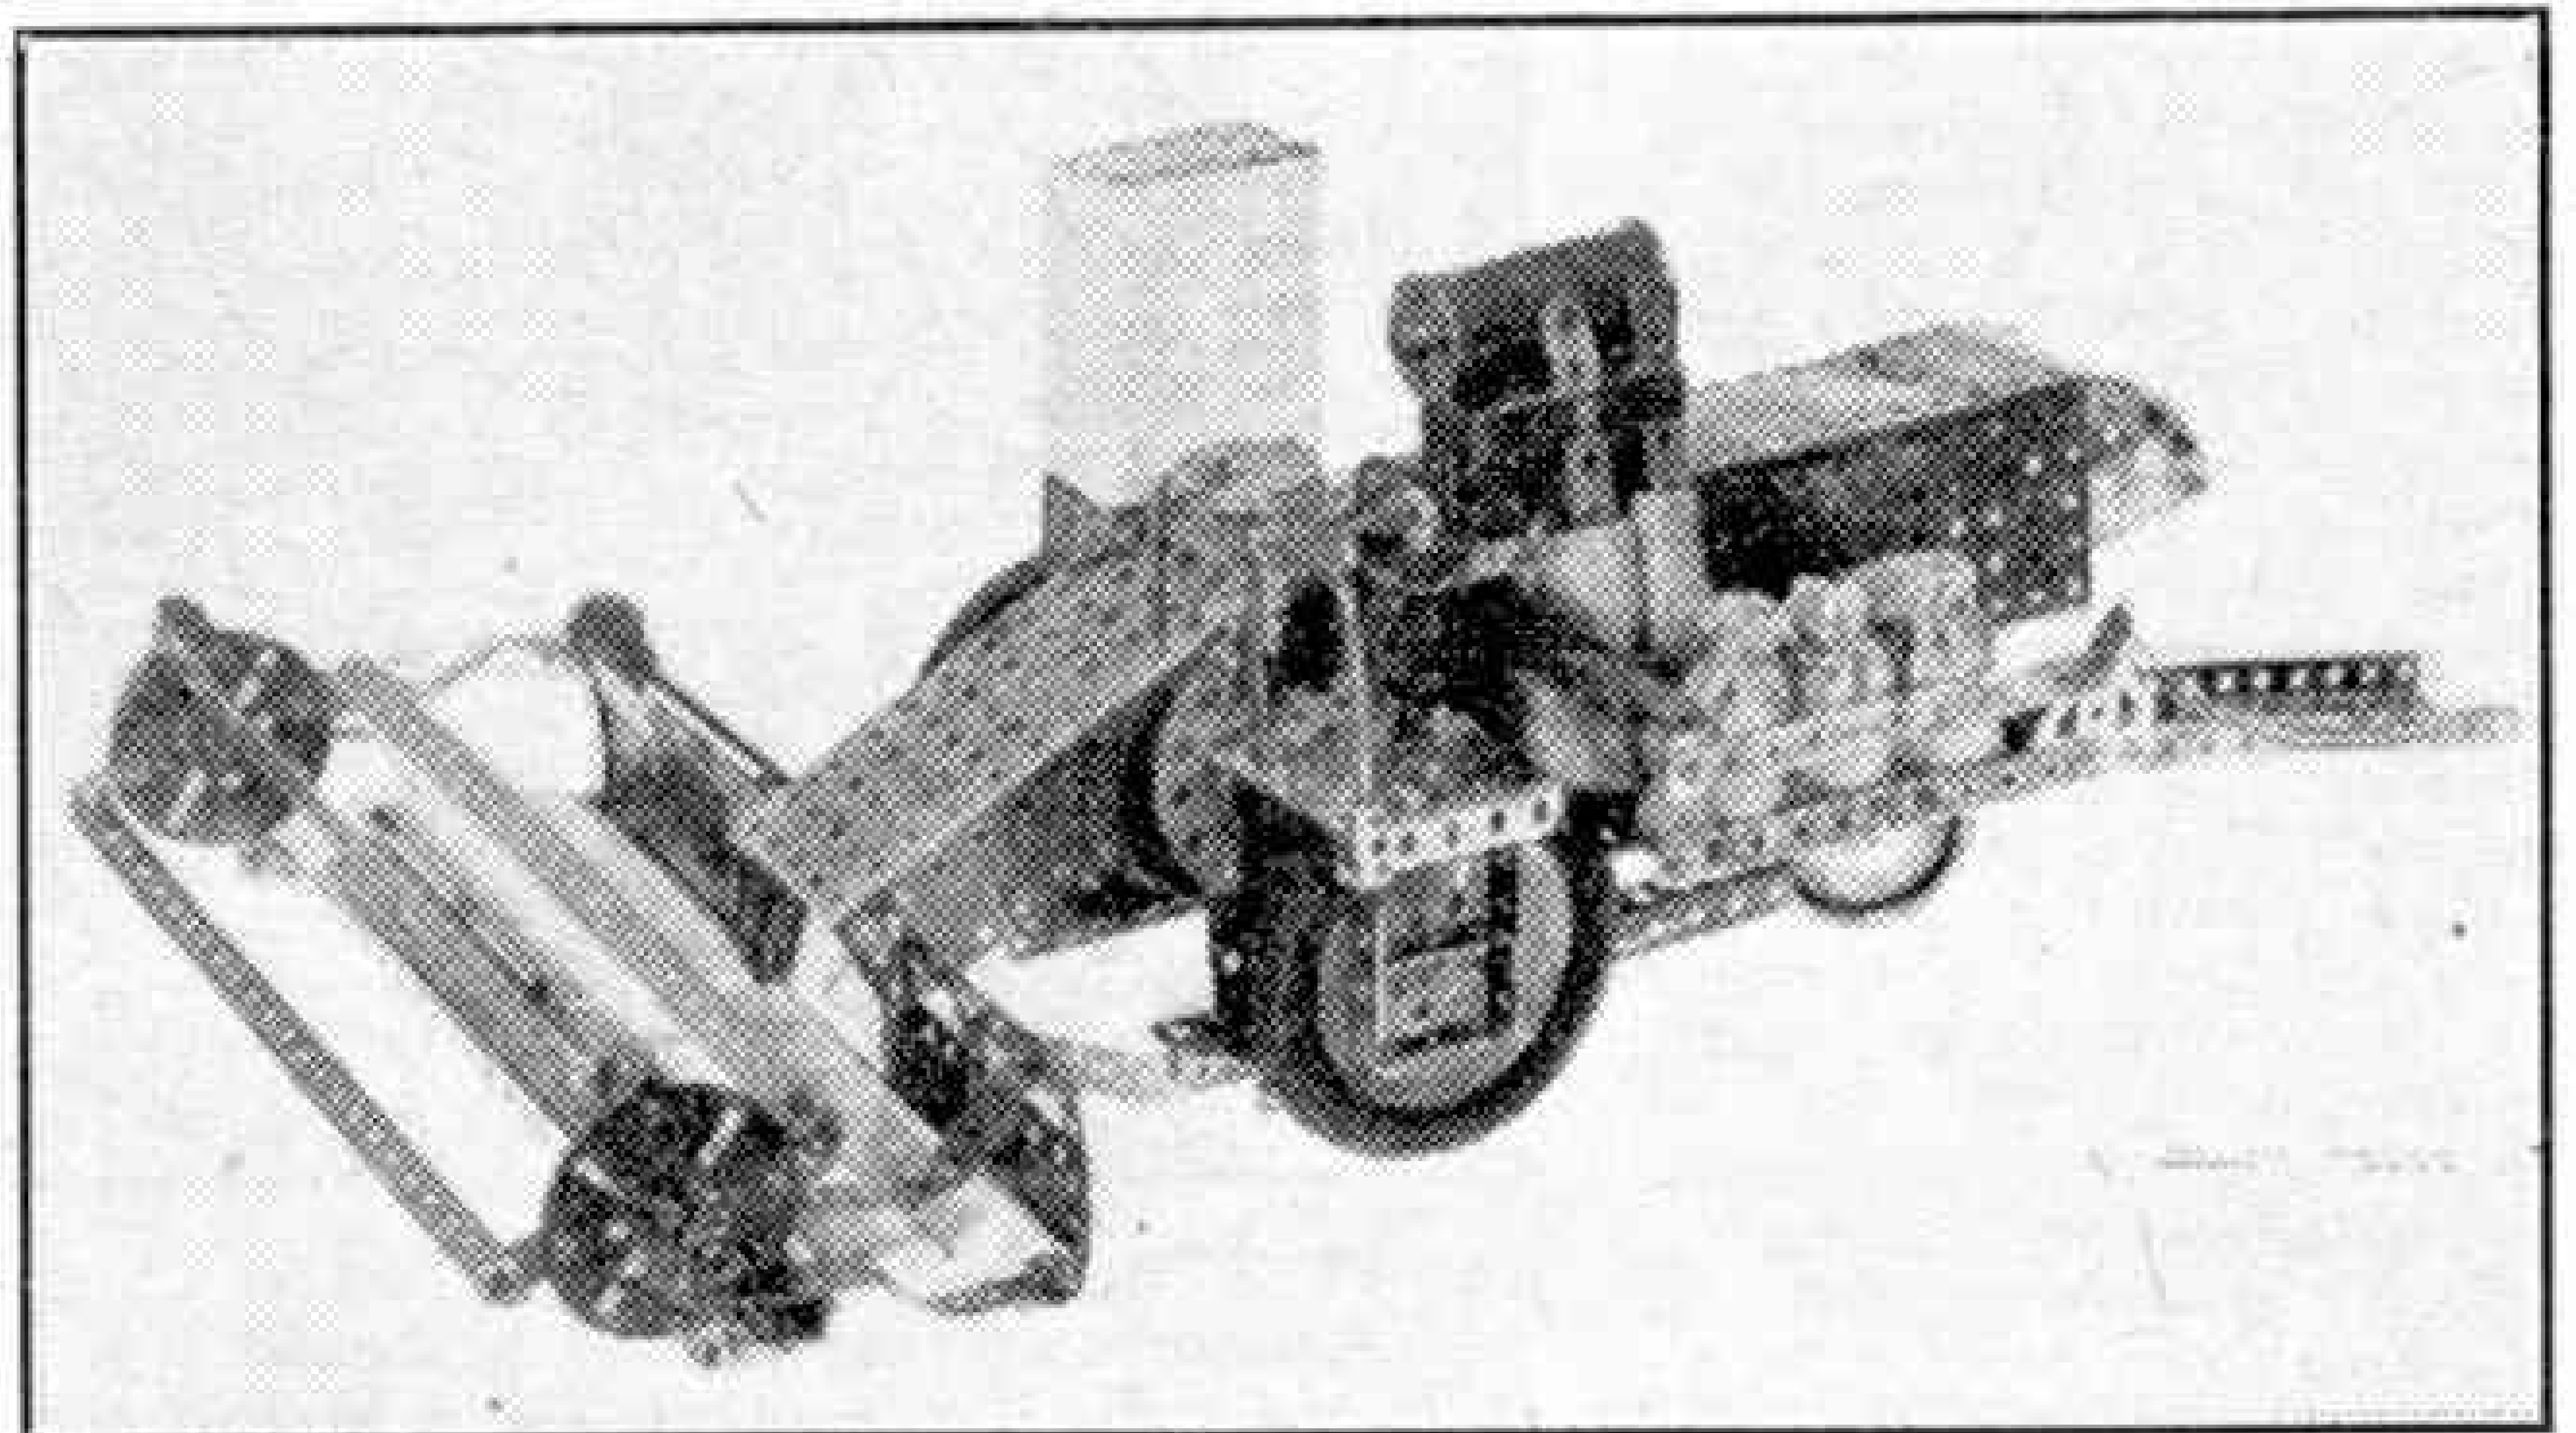

Fig. 4. A combine harvester built by Peter Mynott, Great Shelford.
P. Mynott's model of a combine harvester earned for him one of the Consolation Awards. The harvester is shown in Fig. 4 ready for action, with a number of filled sacks in the delivery chute at the side.